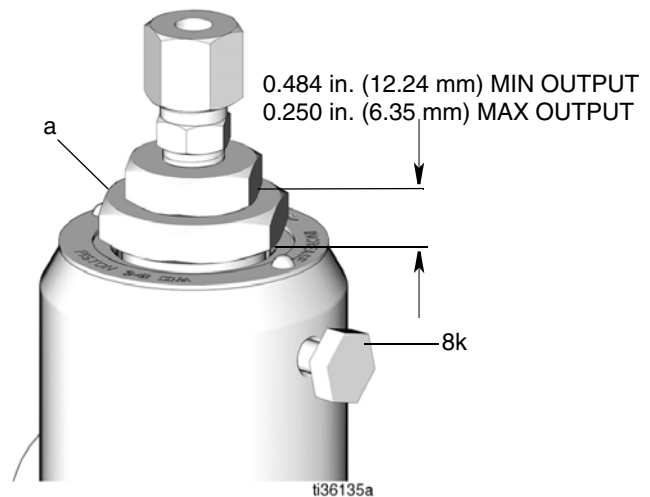

FIG. 2
2. Loosen screw (8k) (FIG. 2).
3. Turn hex nut (a) (FIG. 2):